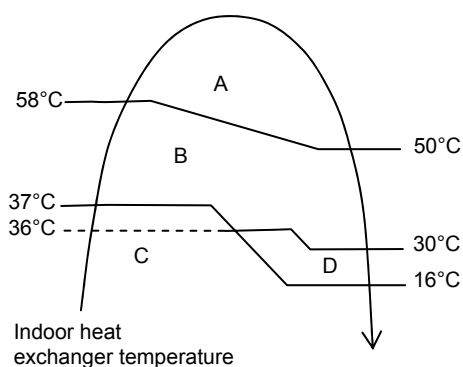

Figure 1
- Automatic vertical airflow direction can be set using remote control; the vane swings up and down within the angles as stated above. For heating mode operation, the angle of the vane depends on the indoor heat exchanger temperature as figure 1 below. When the air conditioner is stopped using remote control, the vane will shift to close position.